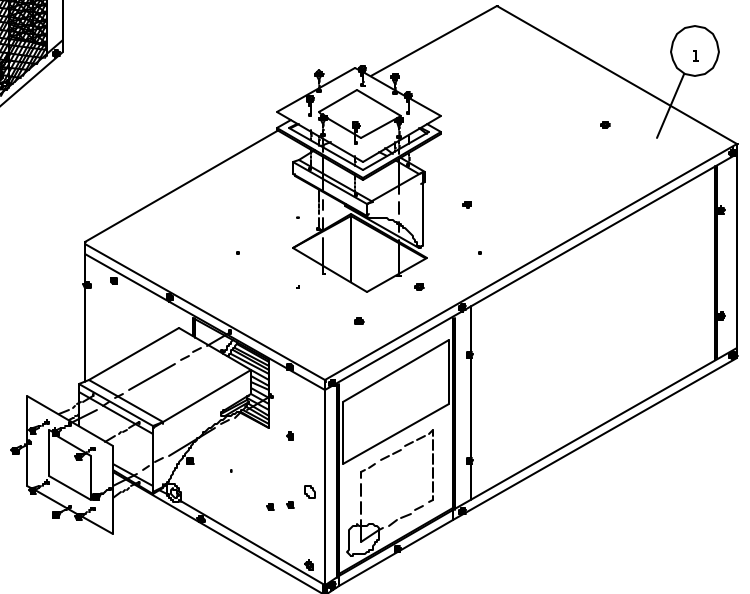

FIGURE 2
1. Remove top. See Figure 2, #1.
| 1. | Remove top panel. See Figure 2, #1. | 12. | Unbraid discharge and liquid lines at the coil. |
| 1. | Remove top panel. See Figure 2, #1. | 4. | Unbraid discharge and liquid lines. |
| 1. | Remove top panel. See Figure 2, #1. | 4. | Remove refrigerant charge. |